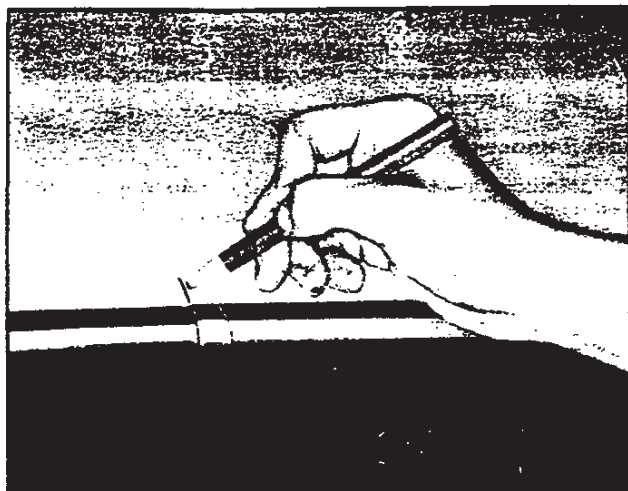

Fig. 62—Marking Molding Position
2. Mark position of right-hand upper reveal molding end (fig. 62) and pry out from retaining clips. Repeat for left-hand and lower molding assemblies.
3. Remove lower (inside) garnish molding by removing four (4) nuts from fixed studs and carefully pulling molding outward.